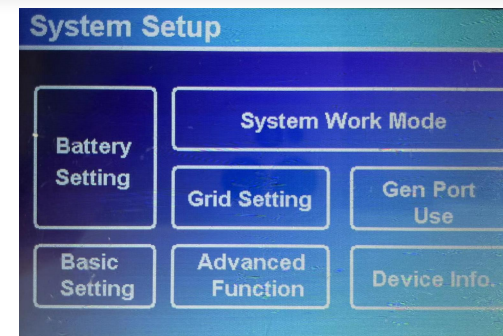

图1
- 1.Go to the settings page (Figure 1)